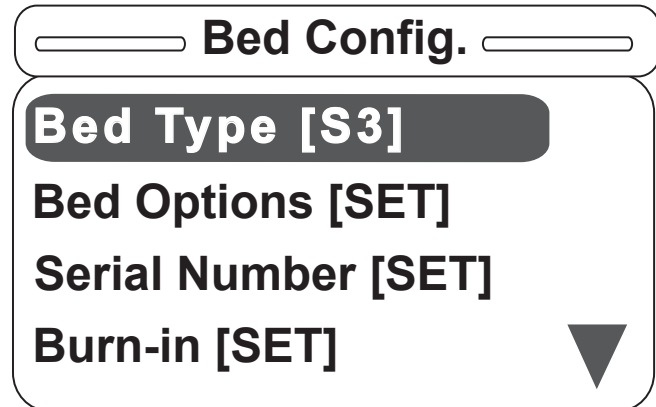

Figure S-35
33. Once all Bed Config. items are set, the main screen will be displayed as in Figure S-35.